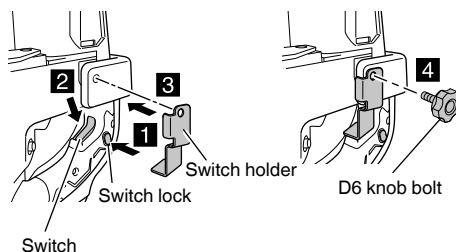

Fig. 4
- (5) While pressing the switch lock, pull the switch and fit the switch holder into position. This locks the switch in the ON position. (Fig. 4)
- (6) Tighten the D6 knob bolt on the front side. When the installation procedure has been correctly carried out, the switch lock is held in the pressed position. (Fig. 4)